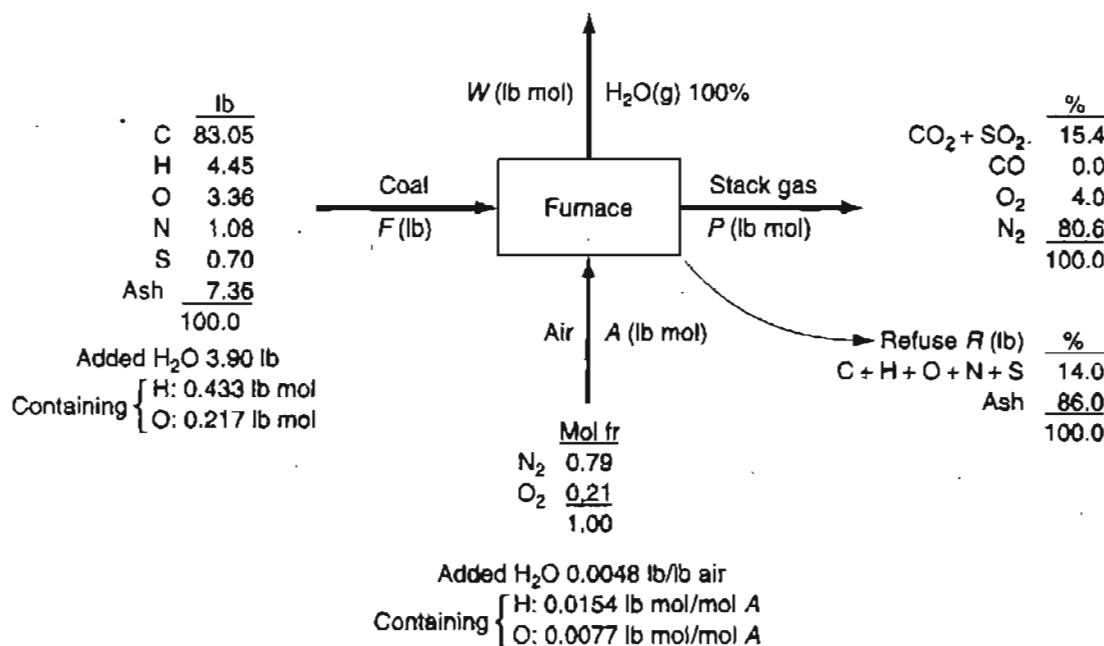

Figure E10.9
All of the information given in the problem statement has been placed on Figure E10.9. Because the gas analysis is on a dry basis, we added a flowstream W for the exit water to the process diagram.
Step 4 (repeated) You must first calculate some extra information besides the compositions given in the diagram (the information has already been added to Figure E10.9 for convenience).